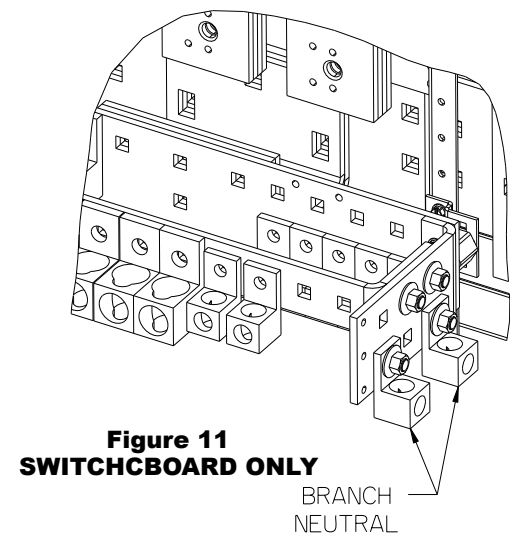

Figure 11
12. Reference fig.11 - Installing the Branch neutral lug (item 23) in a Switchboard. The branch Neutral is located at the bottom of the "Z-rails", or mirrored at the top depending upon the feed cable location. Two (2) different Neutral lug assemblies are included in the kit, be sure to install the type pictured below. The Neutral lug assemblies can be mounted, as shown, on any available hole of the Branch neutral depending on the cable feed location. Torque all hardware as specified on the rear of the deadfront.